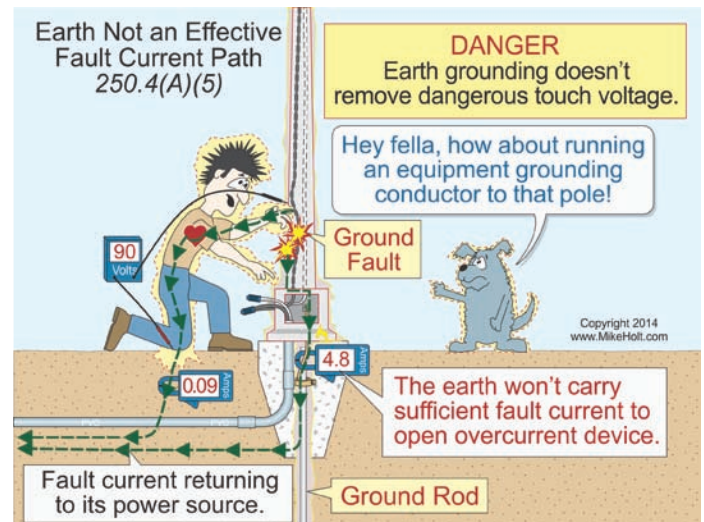

Figure 250–14
**DANGER:** Because the contact resistance of an electrode to the earth is so high, very little fault current returns to the power supply if the earth is the only fault current return path. **Figure 250–15**